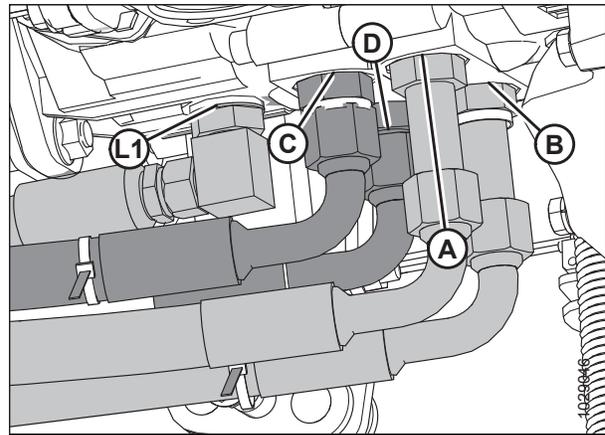

Figure 3.44: Model Year 2015 Connection at the Pump (View from LH Side Cab-Forward)
- Model year 2015: Refer to Figure 3.44, page 32. Five hoses attach to the bottom of the pump.